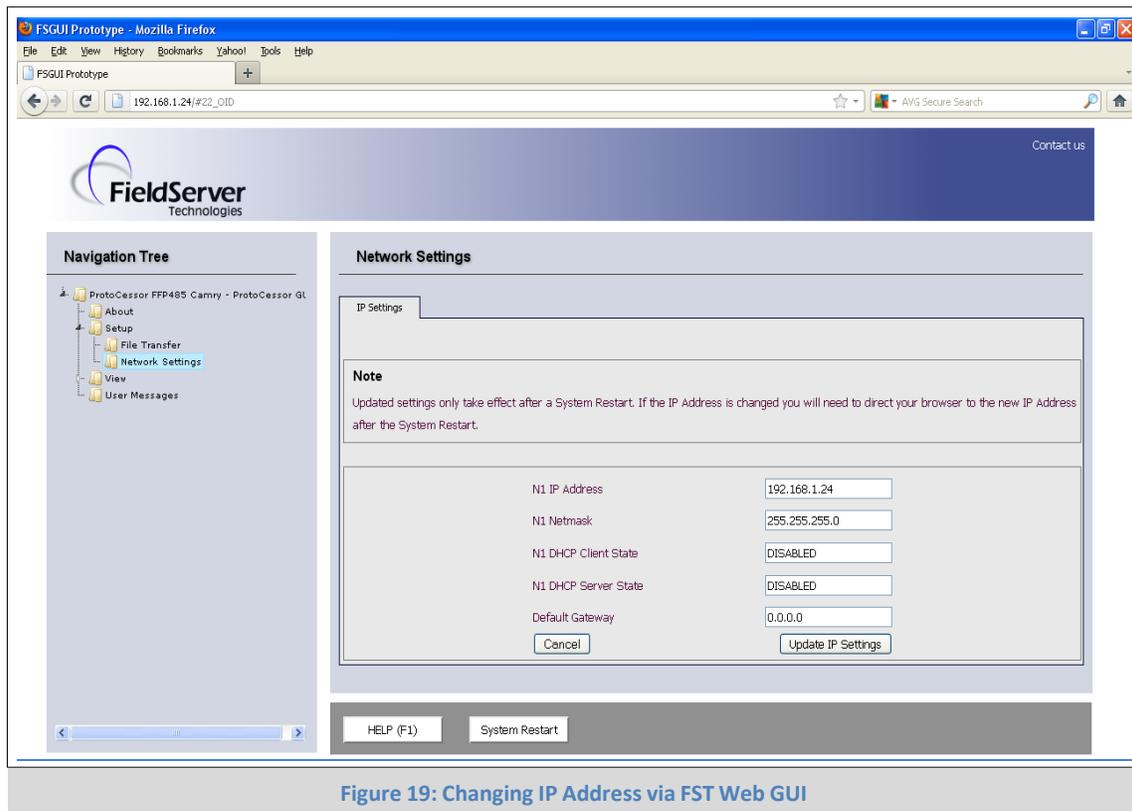

Figure 19: Changing IP Address via FST Web GUI
- From the FST Web GUI's landing page, click on “Setup” to expand the navigation tree and then select “Network Settings” to access the IP Settings menu. (**Figure 19**)